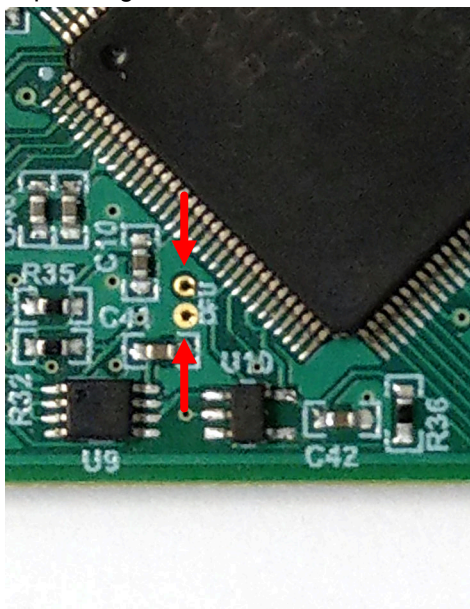

Figure 4-3. Test Points Used to Enter DFU Mode Manually
- Short the two test points near PK1 and PK2 of the header pins (see Figure 4-3) with a pair of tweezers (or wire) while pressing the RESET button.